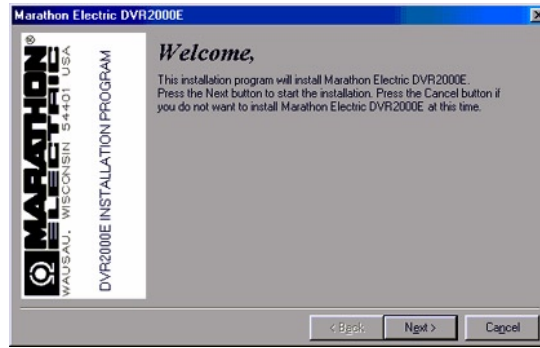
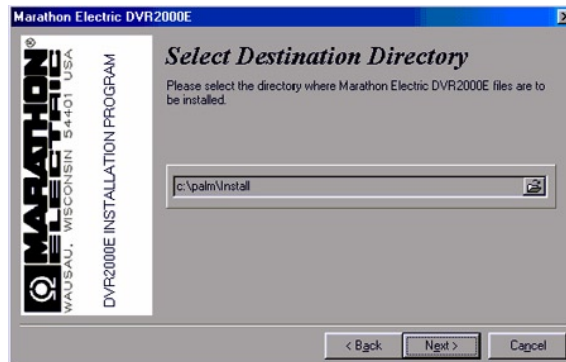

Figure 6-1. Welcome Screen
Figure 6-2. Selection Destination Directory Screen
2. When the DVR2000E Setup and Documentation CD menu appears, click the Install button for the Palm OS® Program. The setup utility starts and displays the Welcome Screen of Figure 6-1. Click the Next> button to view the Select Destination Directory Screen (Figure 6-2).